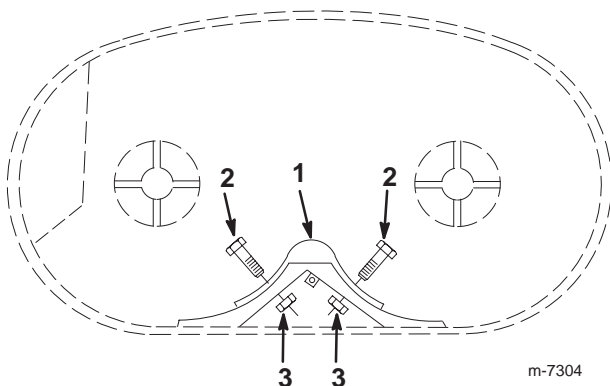

Figure 3
6. Center the rear weldment as shown in Figure 3. Install the rear baffle to deck using two bolts (1/4 x 3/4 inch) and 2 lock nuts (1/4 inch).